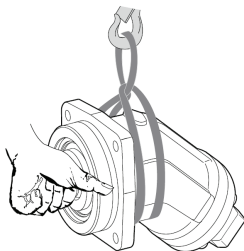

Figure 5 : Motor lifting
2. Put O ring into the O ring groove of input flange as figure 5